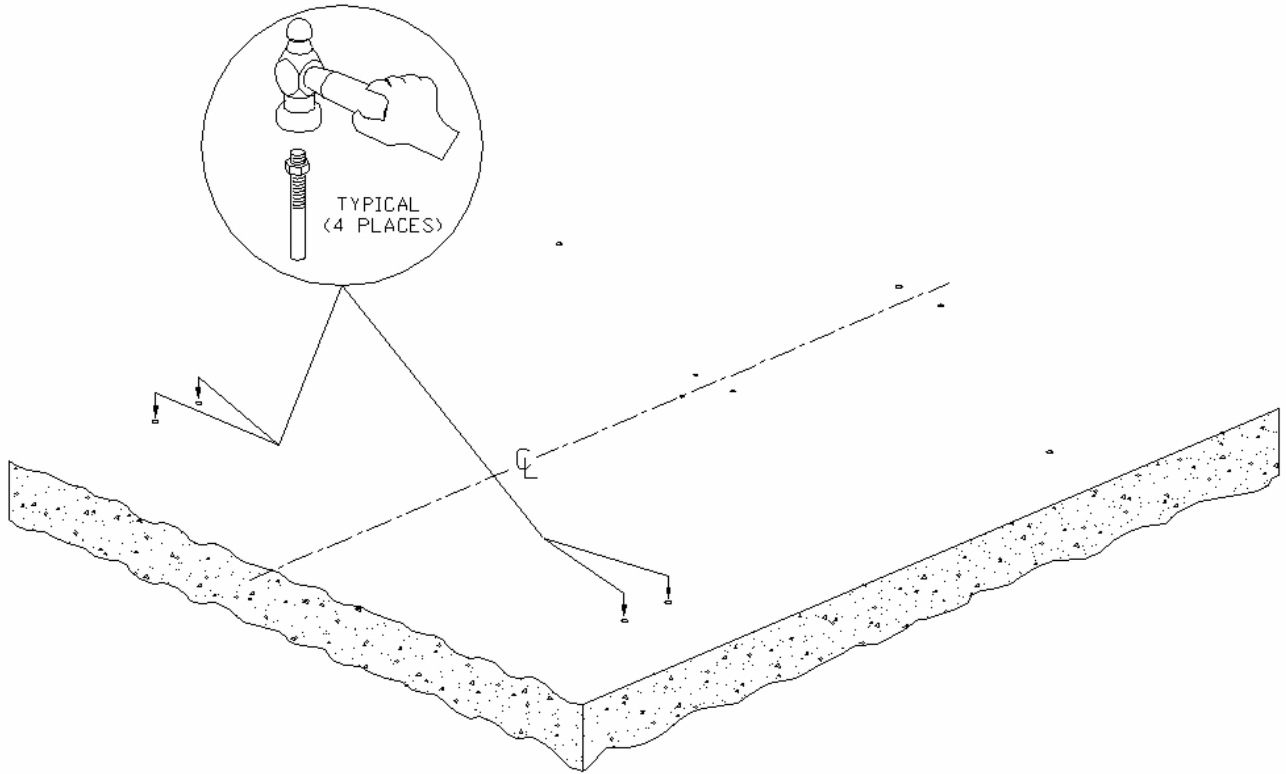

Figure 15
7. Locate four holes and drive in anchor studs for middle barrier posts. See Figure 15. Allow one